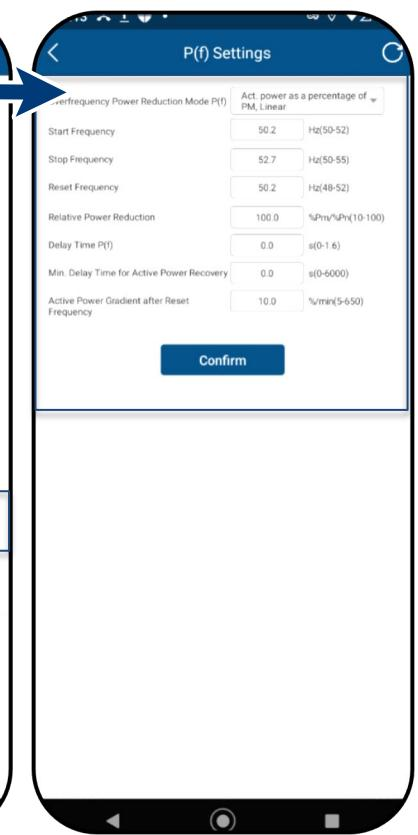
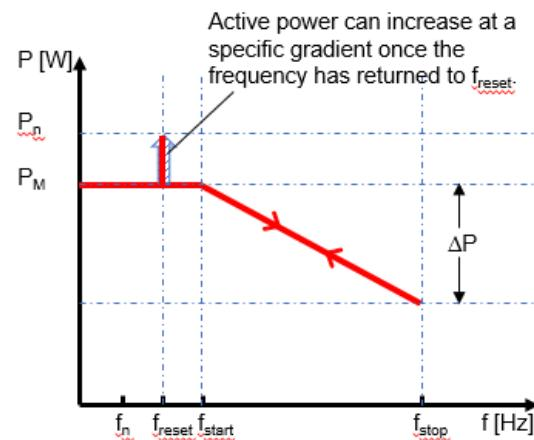

Fig. 109. Set the P(f) parameters
Fig. 110. Non-hysteresis
**Legend for Fig. 109+Fig. 110:** fn: Nominal frequency; freset: Reset frequency; fstart: Start frequency; fstop: Stop frequency; ΔP: Active power in % during reduction